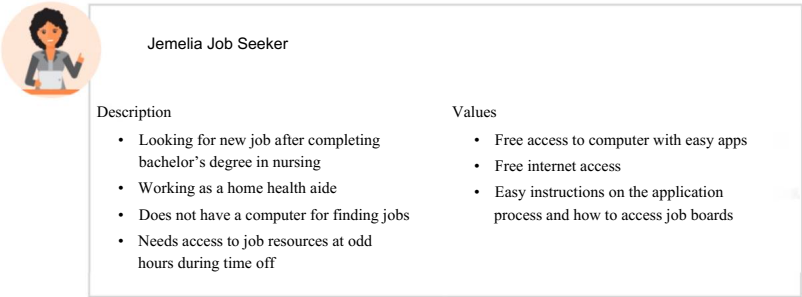

FIGURE 2.12 Example persona for library case
- **Personas** These are profiles of the various types of stakeholders who will use the product. The team develops them to understand requirements from the perspectives of their various stakeholders, usually end users of the product. The team also identifies specific stakeholders and stakeholder groups, gathers their contact information, and begins to contact them. See figure 2.12.